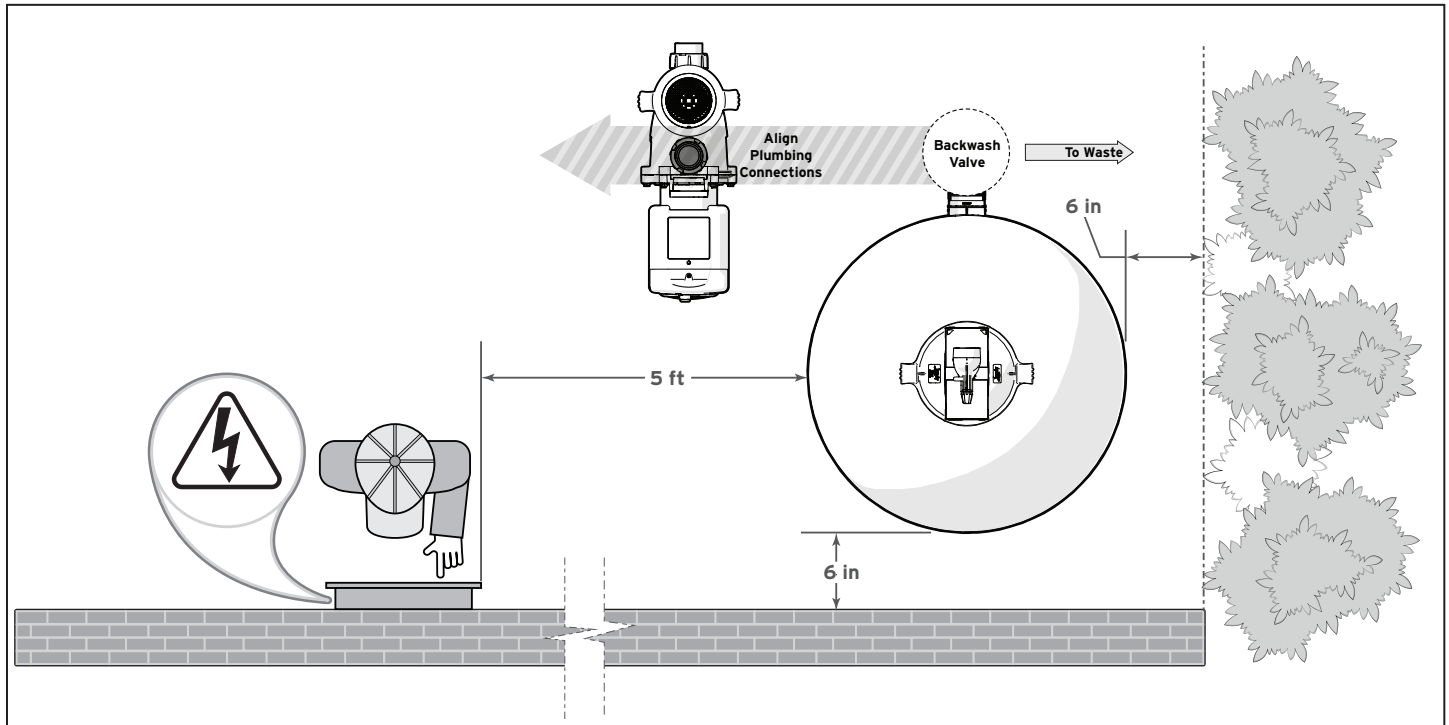

Figure 3. Filter Location Requirements
- Place the filter on the concrete pad, lined up with the inlet/outlet pipes. See Figure 3.